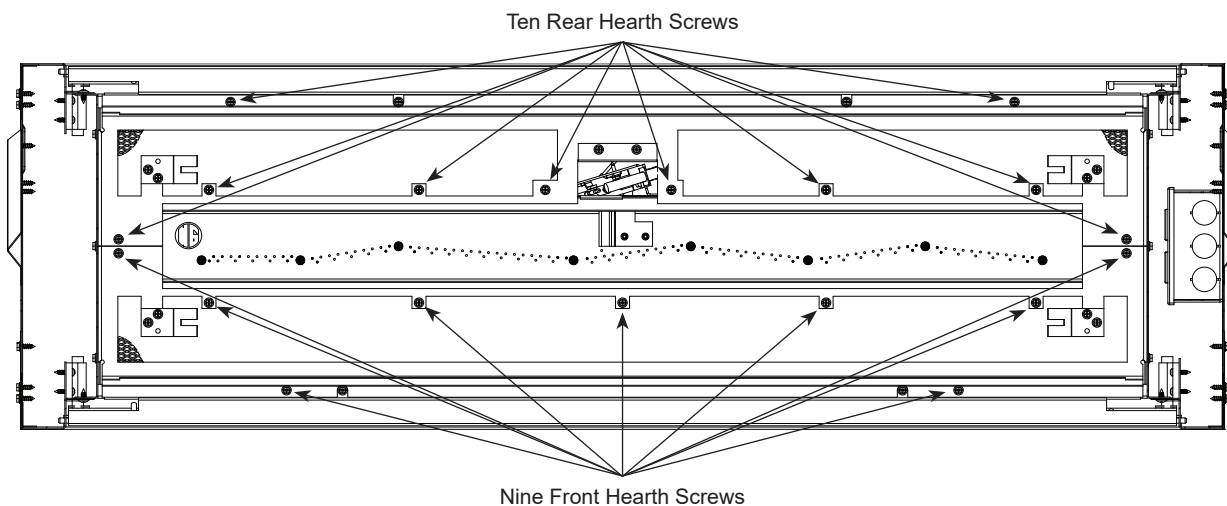

Figure 29. Hearth Screw Locations
3. Remove nineteen (19) screws holding front and rear hearth. Remove both and set aside. See Figure 29.